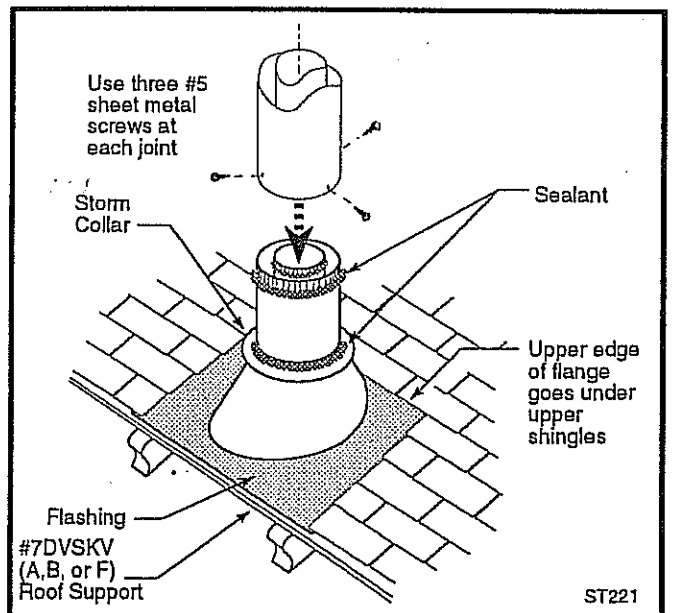

Fig. 43 Roof support and flashing.
9. Install the appropriate roof support and flashing, making certain that the upper flange of flashing is below the shingles. (Fig. 43)
11. Install the Storm Collar and seal around the joints. (Fig. 43)